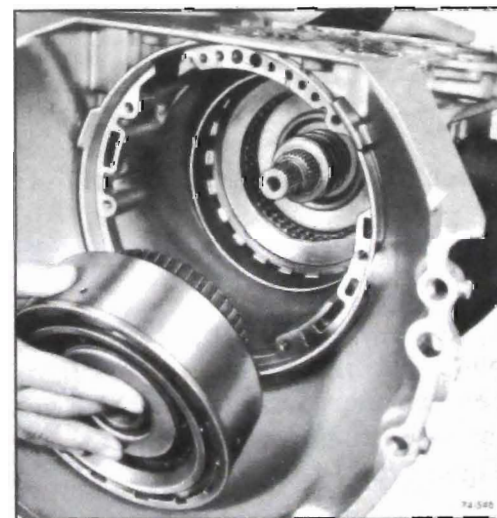

Figure 76-546
7. Remove direct clutch assembly. See Figure 76-546.